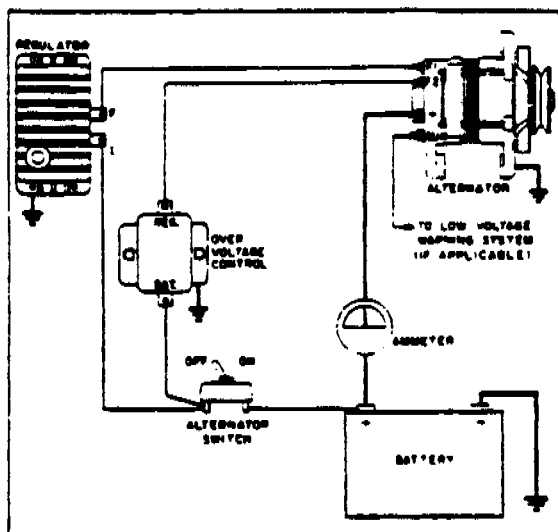

FIGURE 9-27r. APPLICATION OF OVERVOLTAGE CONTROL
- c. The relay contacts will remain open until the alternator switch is turned off. Figure 9-27r illustrates the overvoltage control connected in a typical Prestolite insulated field alternator.